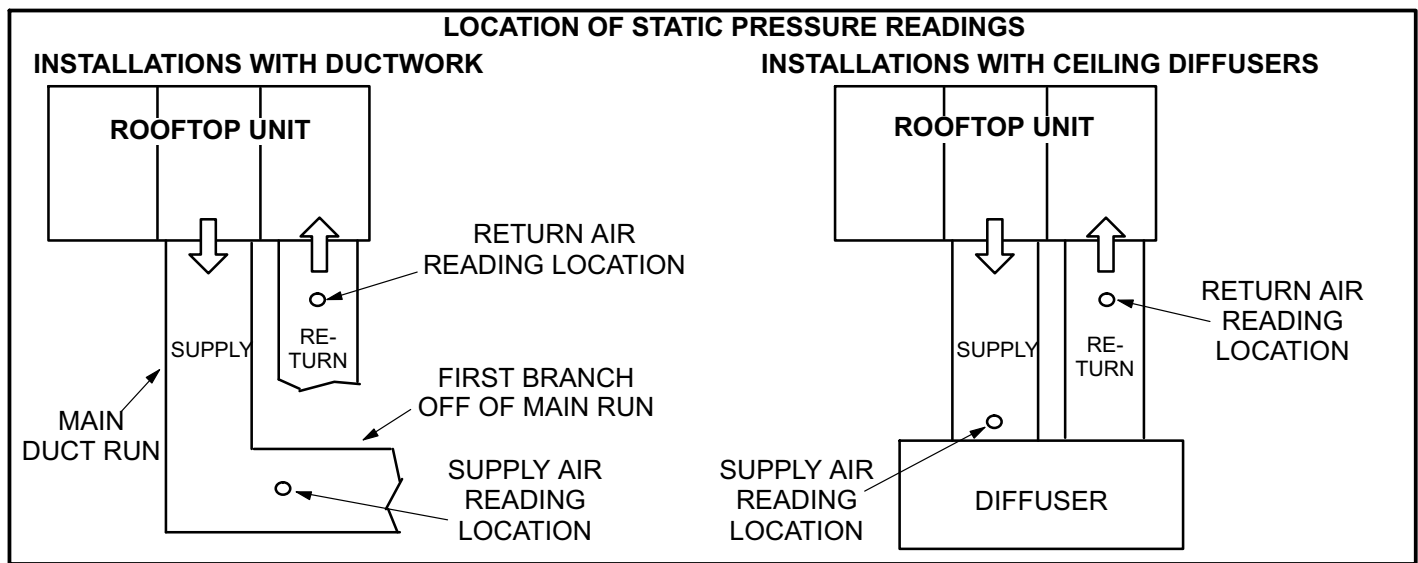

FIGURE 8
- 2- With all access panels in place, measure static pressure external to unit (from supply to return). Blower performance data is based on static pressure readings taken in locations shown in figure 8.